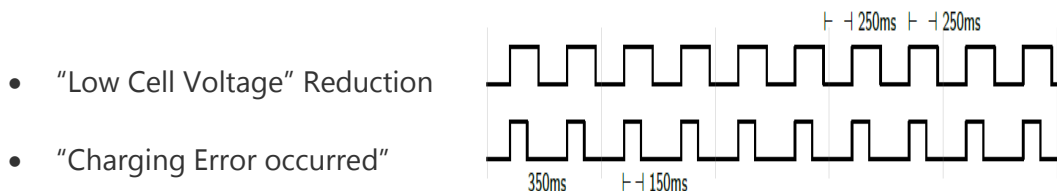

Figure 2.15 Sound indicator timing
- Pulse patterns are shown in the Figure 2.15 Sound indicator timing.